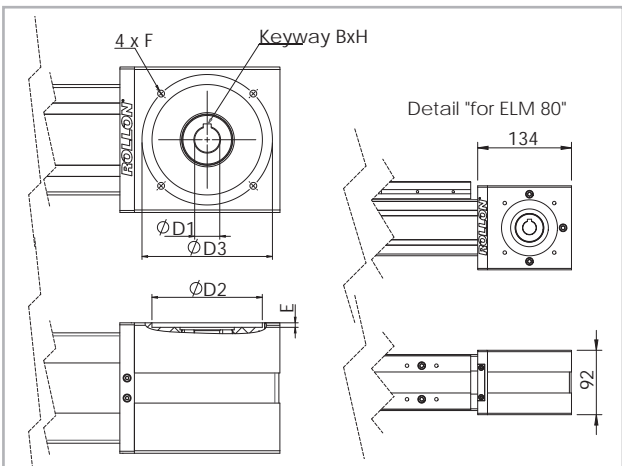

Fig. 14
* Dimensions of head change (see detail "A" Fig. 14)